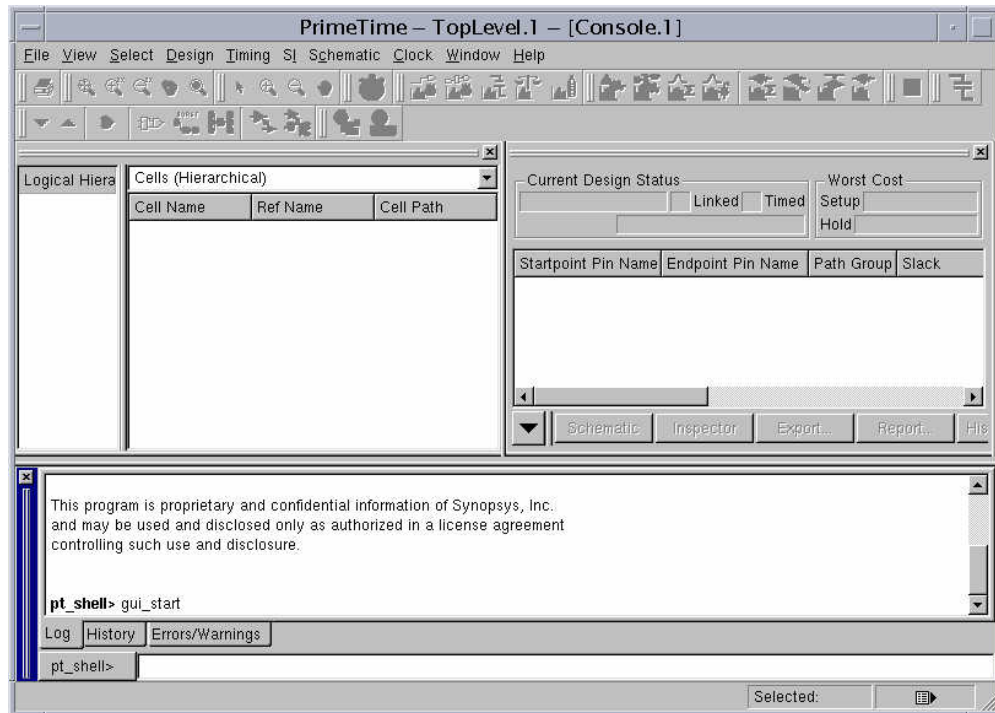

Figure 6-8 PT GUI.
1. Start primetime with the command **primetime**. Figure 6-8 shows PT GUI. Notice that there are three main part on the interface - *Logical Hierarchy*, *log* and *pt-shell*> prompt. **%primetime&**